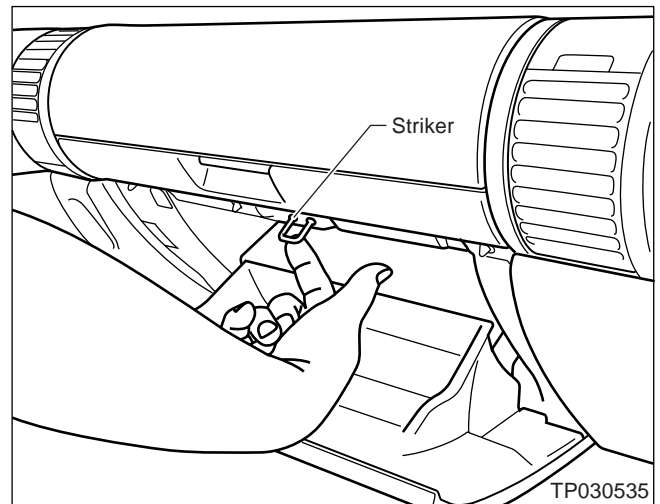

Figure 12
6. "Sparingly" (don't put too much) apply a thin film or white lithium grease to the glovebox latch striker as shown in Figure 12.